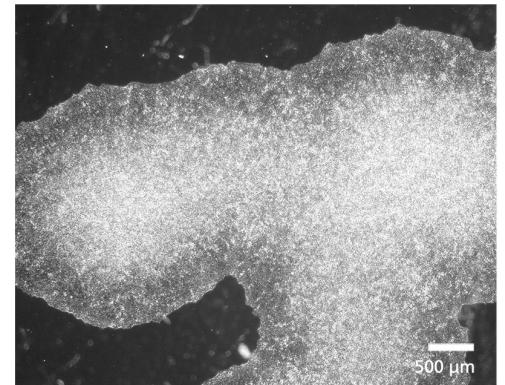

Figure 2. SCTi003-A-2 hiPSCs Demonstrate Varying Colony Densities When Seeded at a Range of Starting Concentrations
14. On Day 6 - 8, select the well with optimal hiPSC colony density for passaging (Figure 2). The culture should consist of healthy hiPSC colonies that are medium to large, compact, and have centers that are dense compared to their edges.